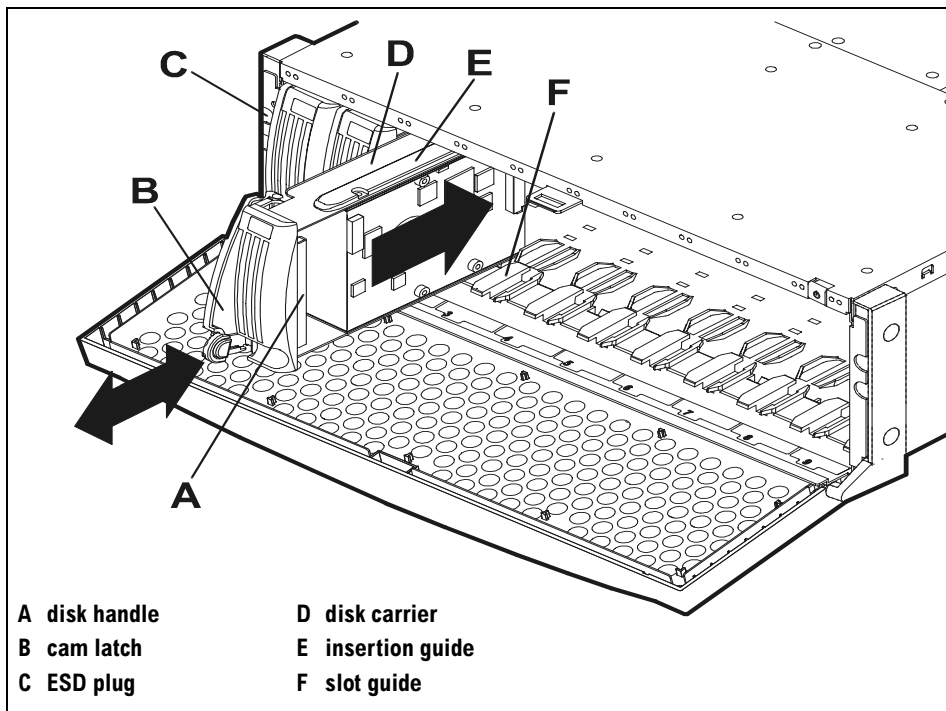

Figure 31 Disk Installation
Disks are fragile and ESD sensitive. Dropping one end of the disk just two inches is enough to cause permanent damage. In addition, static electricity can destroy the magnetic properties of recording surfaces. Grip disks only by their handles (A in Figure 31) and carriers (D), and follow strict ESD procedures.
3. Put on the ESD strap and insert the metal end into the ESD plug-in (C in Figure 31) on the front of the disk system.